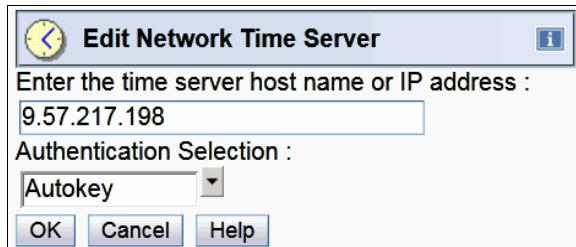

Figure 8-24 Edit Network Time Server for Autokey
In this example (see Figure 8-24), we modify the existing NTP server 9.57.217.198 to use Autokey configuration.
7. The Edit Network Time Server window opens (Figure 8-24). Select **Autokey** under Authentication Selection, and then click **OK**.